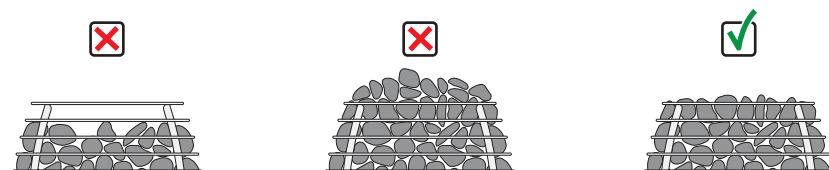

Figure 14. Laying of HIVE Flow stones.
- Do not lay a high pile of stones, and make sure before the first use all stones are level with the top of the stone grate (**Figure 14**).